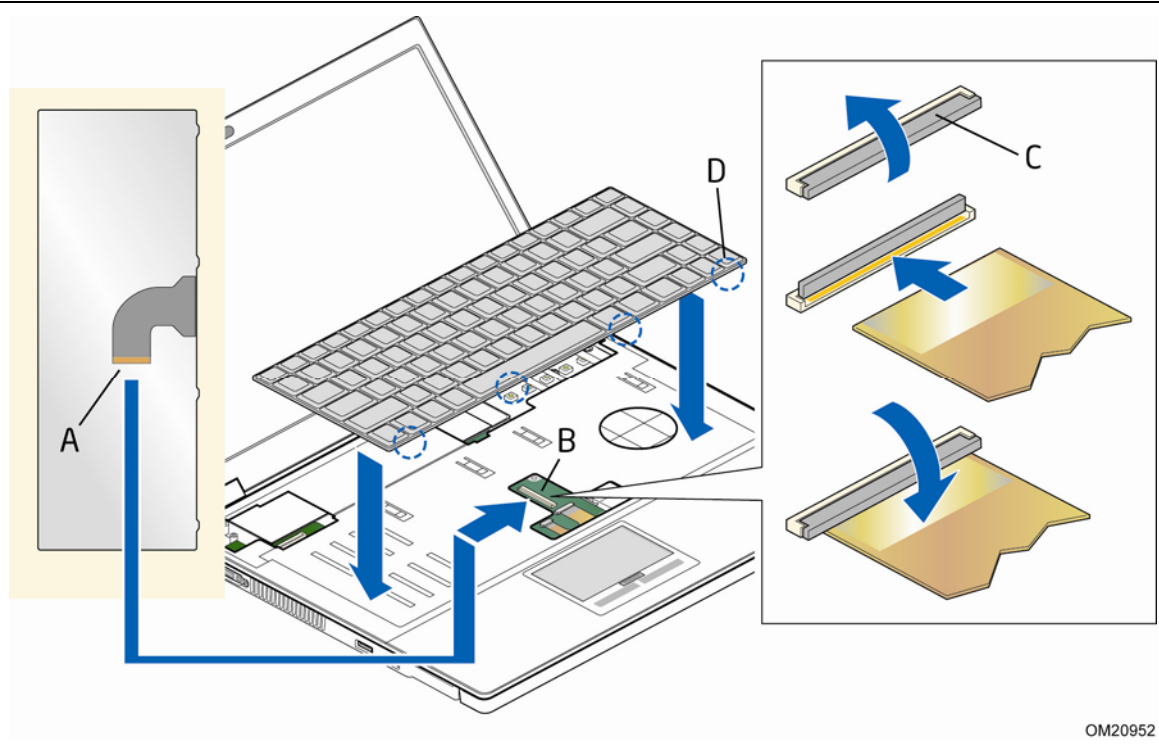

Figure 22. Installing a Keyboard
The keyboard cable (Figure 22, A) is located on the bottom of the keyboard. To install a keyboard and connect it to the Mobile Board, see Figure 22 and follow these steps:
1. Locate the keyboard connector (Figure 22, B) on the Mobile Board and unlock the connector locking mechanism (Figure 22, C) by rotating it upward.
3. Install the keyboard by inserting the edge tabs (Figure 22, D) into the matching slots in the C-tray and slide the keyboard into place.